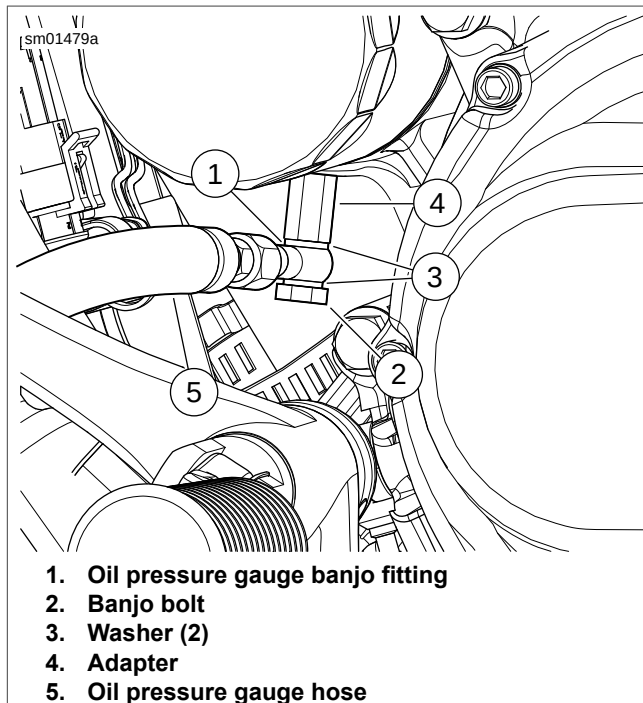
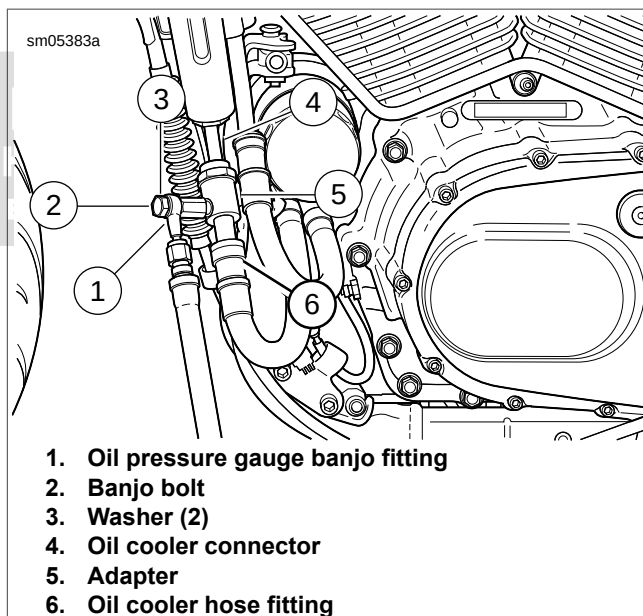

Figure 3-4. Oil Pressure Test Connections
Figure 3-5. Oil Pressure Test Connections: XR 1200X
1. See Figure 3-5. Disconnect the quick connect fitting from the inlet side of the oil cooler (4). See 3.12 PRECISION COOLING SYSTEM: XR 1200X, General.
2. Connect OIL PRESSURE GAUGE ADAPTER (Part No. HD-96921-125) (5) to the oil hose (6).
3. Connect the other end of the adapter to the oil cooler fitting (4).
1. See Figure 3-4 or Figure 3-5. Assemble banjo bolt (2), washer (3), OIL PRESSURE GAUGE banjo fitting (1) and second washer onto adapter and tighten snugly.